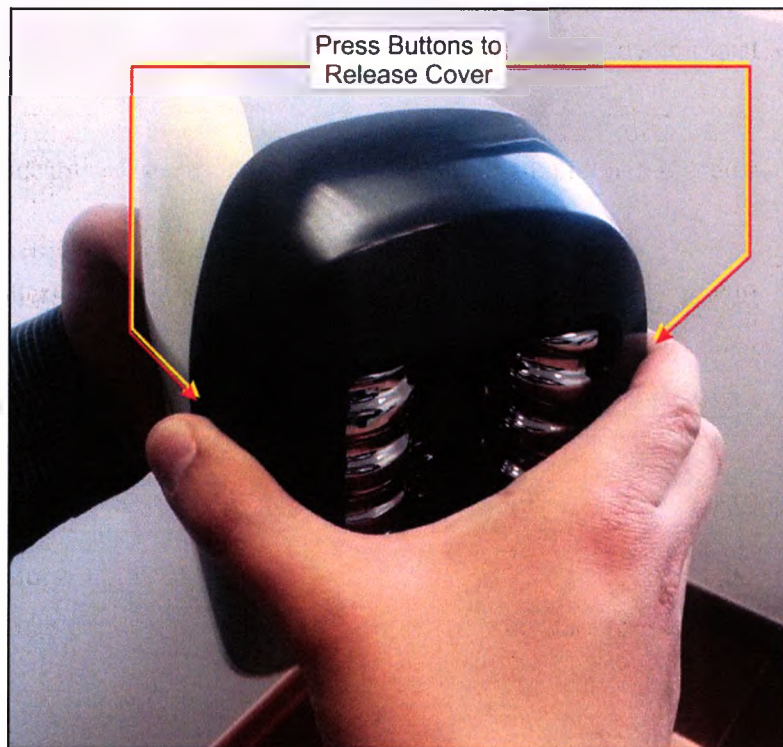

Figure 39: Removing the VSmooth Replaceable Cover
1. Turn the system off and disconnect the replaceable applicator cover by pressing the two spring-loaded buttons, then pull the cover straight off the applicator body, as shown in Figure 39.